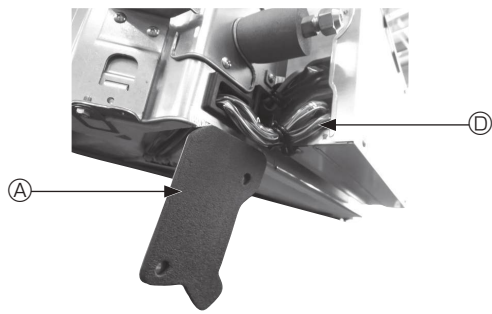

Fig. 4-4
- ① Remove the two screws securing the wire cover of the main unit, and then open the cover.
- ② Route the wires of the i-see Sensor and signal receiver through the wire inlets in the electric component box as shown in the diagram and around the bushings on the side of the main unit. (Fig. 4-4)